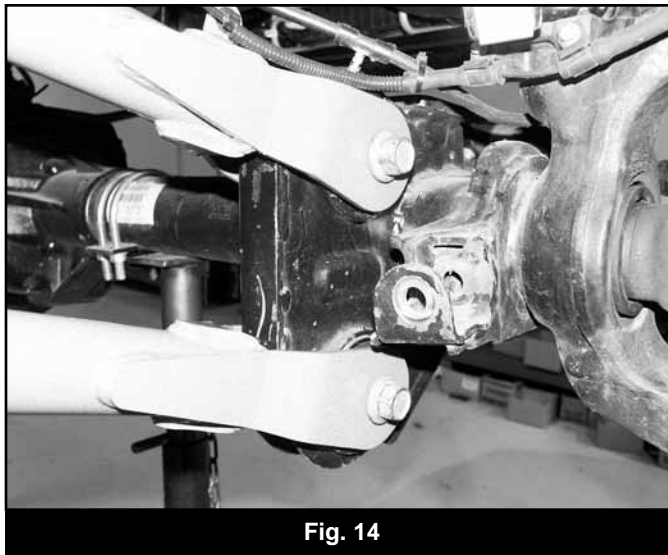

Fig. 14
41. Attach the axle end of the control arm with the original hardware. Leave hardware loose. (Fig. 14)